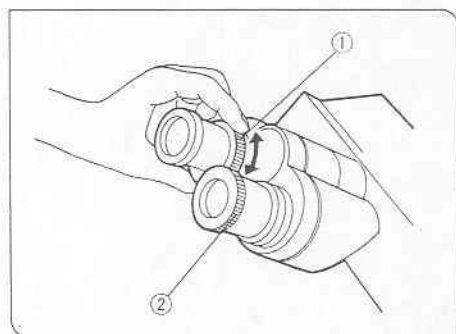

Fig. 45
2 Diopter Adjustment (Figs. 45, 46)
2. Looking through the left eyepiece with your left eye, turn the diopter adjustment ring ① to where the specimen is in focus. (Fig. 45)
1. Looking through the right eyepiece with your right eye, turn the knurled ring on top of the eyepiece until you see two distinct sets of reticles in the field of view. (Figs. 45, 46)
3. Looking through the left eyepiece with your left eye, turn the diopter adjustment ring ① using a finder eyepiece.